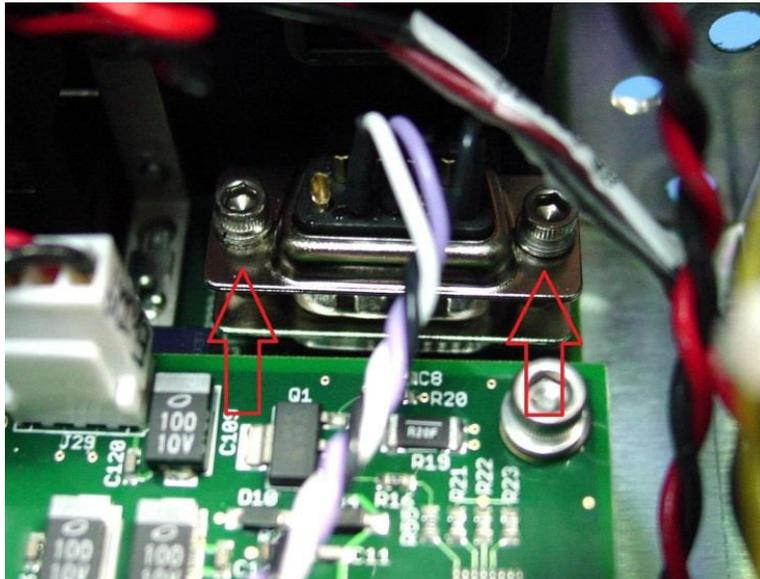

Figure 5: Remove 9-pin Connector
8. Follow the purple, white, and black wire from the back of the TEC board to the 9-pin connector shown in Figure 5. With a 3/32" ball driver, remove the two screws with mounting hardware attaching the 9-pin connector that houses the purple, white, and black wire. Remove the connector.